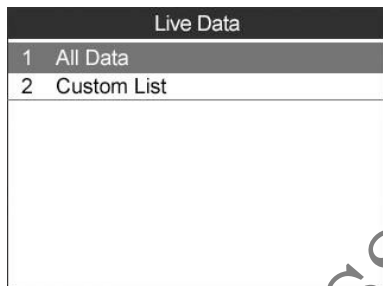

Figure 15.5
- 1) From the Live Data menu (Figure 15.5), use the **UP/DOWN** scroll button to select **All Data** and press the **OK** button.
- 1) To retrieve customized live sensor data, use the **UP/DOWN** scroll button to select **Custom List** from **Live Data** and press the **OK** button. (Figure 15.5)